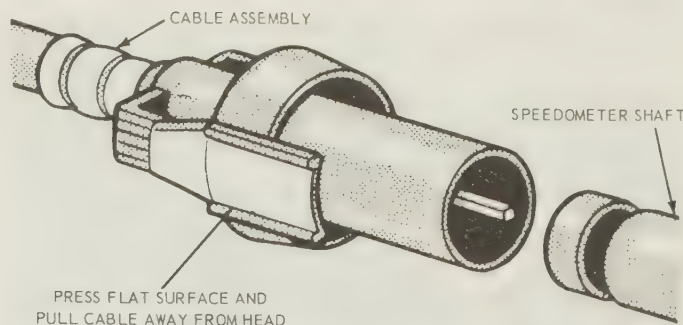

Fig. 10.27. Speedometer cable connector at Speedometer (Sec. 34)
- 1 Working behind the instrument panel disconnect the speedometer cable from the rear of the speedometer head (see Fig. 10.27).